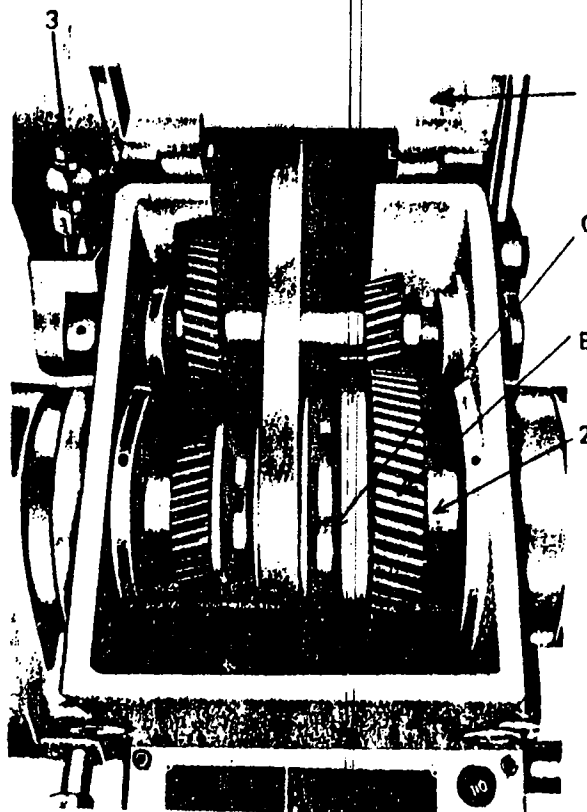

FIG 1
2. Raise headstock cover (1, Fig 1) ~~and pull out~~ lock pin (2, Fig 1), disengaging bull gear (B) from spindle pulley (C).
3. Move back gear lever (3, Fig 1) to engaged position by pulling on knob, then pushing down and in. It may be necessary to rotate spindle pulley by hand so gears will mesh.
2. Pull belt tension lever (4, Fig. 1) downward to loosen belt tension.